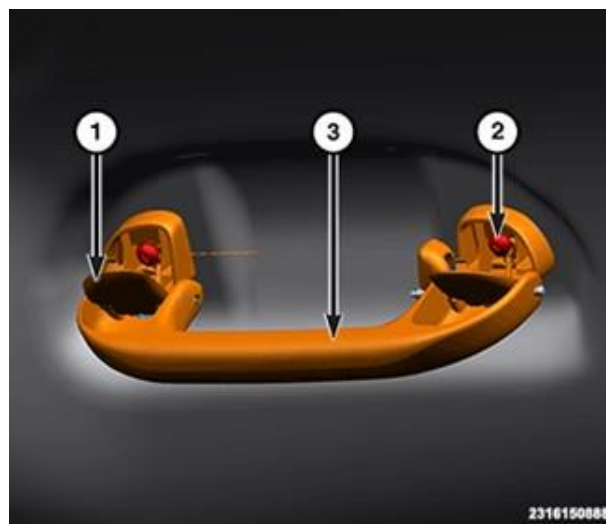

Figure 22 – Grab Handle
48. If equipped with grab handles, remove screw covers, remove screws and then remove grab handle from the vehicle (Figure 22).
73. If equipped with grab handles, position the grab handle to the headliner, install the screws and tighten securely then install the screw covers (Figure 22).